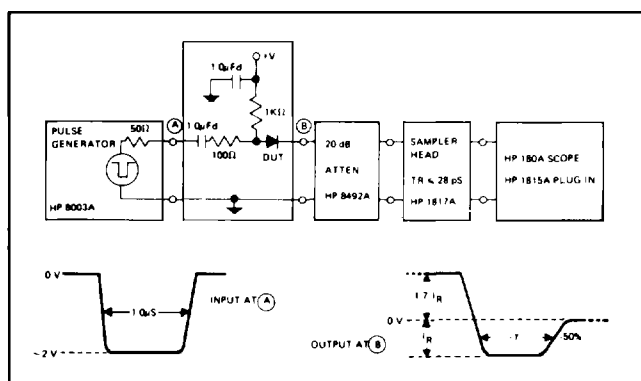

Figure 5. Transition Time, T_T , Test Set-Up
2. Measured in Circuit of Figure 5; $I_F = 10$ mA, $I_R = 6$ mA.